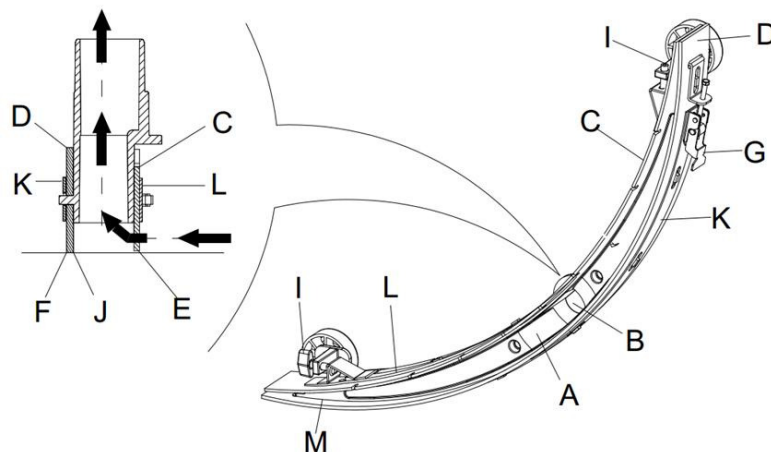

Figure 15
2. Press the power switch (41) to the “O” position to turn off the machine.
3. Unscrew the squeegee knobs (16); remove the vacuum hose from the squeegee assembly & remove squeegee.
4. Use the squeegee lift handle (14) to lift the squeegee mount bracket.
5. Using a damp towel, clean the squeegee (Figure 15). Clean in particular the groove (A, Figure 15) and the dirt and fragments on the vacuum tube. Check if the front squeegee blade (C) and
- the rear squeegee blade (D) are intact, and if there are broken edges and cracks. Replace them if necessary (refer to the steps in the following section).
1. Following the methods related in the previous section clean the squeegee (Figure 15)
2. Check the edge (E, Figure 15) of the front squeegee blade and the edge (F) of the rear squeegee blade (D). On the whole length, they should be level. Otherwise, adjust their heights through the following procedure.
- Loosen the clip (G) to let the rear squeegee blade (D) separate from the bracket (M) for the adjustment of the position of the squeegee. After the adjustment, lock the clip once again.
- Loosen the screw on the handle (I) to adjust the front squeegee blade (C); tighten the handle screw after adjustment.
3. Check if the front squeegee blade (C) and the rear squeegee blade (D) is intact and if there are broken edges and cracks. If damage is found, change them according in the following way. If the front edge of the rear squeegee blade (J) has worn, it can be flipped upside down and re-installed (the top edge is required to be intact). If the top edge is also worn, change it by following the procedure below:
- Loosen the clip (G) to let the pressure blade separate from the bracket (M), take off the clip bar (K), and then change or turn the rear squeegee blade (D) upside down. Re-install the rear squeegee blade in the reverse order of taking it off.
- Loosen the handle screw (I) and take off the front clip bar (L), and then change the front squeegee (C).